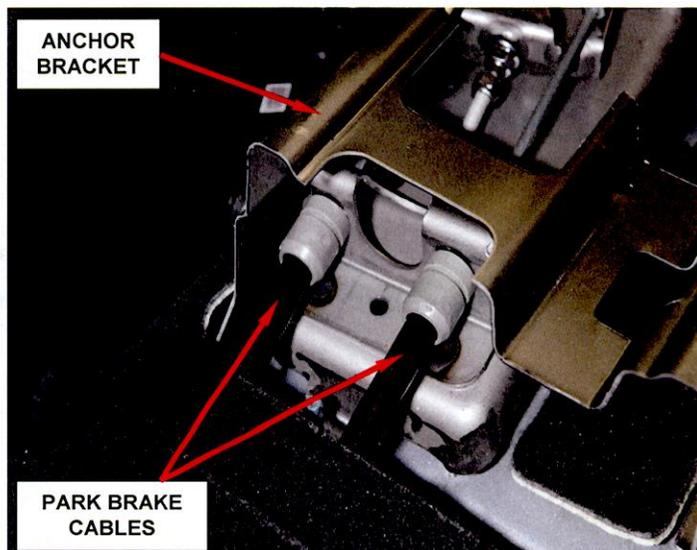

Figure 13 – Park Brake Cable Anchor Bracket
11. Disengage the park brake cable(s) from the park brake cable anchor bracket (Figure 13).